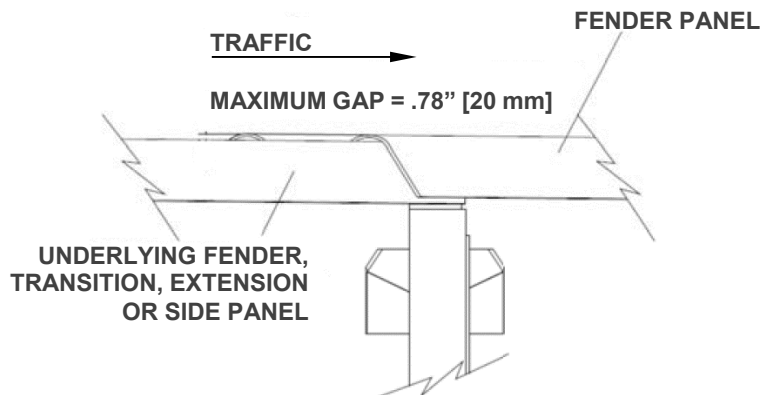

Figure 37
- 10) Check all Fender Panel gaps (Figure 37). The maximum gap allowed for these overlapping parts on the side of the system with traffic approaching from the rear (including Fender Panels overlapping components behind the system) is .78" [20 mm] for narrow systems and 1.0" [25 mm] for wide systems. Be sure the Mushroom Washer Assemblies are torqued to 60 ft-lbf [80 N-m]. If the gaps between the Fender Panels are still too large, then it may be necessary to replace bent parts.